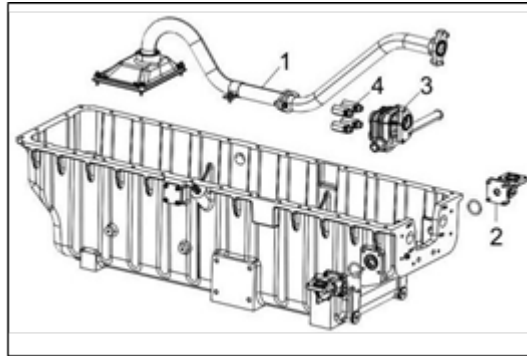

Figure 105.
4. Remove the oil strainer (Figure 105, item 1) in two stages.
5. Remove the pipe joints (Figure 105, item 2).
6. Remove the supporting seat (Figure 105, item 3) oil pipe and oil pump pressure limiting valve.
7. assembly (Figure 105, item 4).